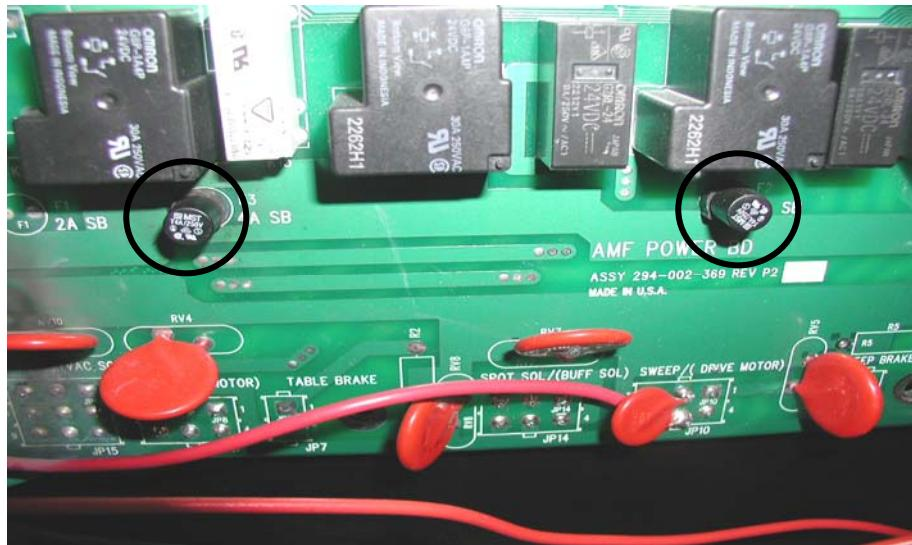

Figure 3-25
4. Carefully lift the top off the control enclosure. The two fuses for the solenoids are located on the circuit board, as shown in Figure 3-25. The left fuse is for the Vac Head solenoid. The right fuse is for the two buffer solenoids.